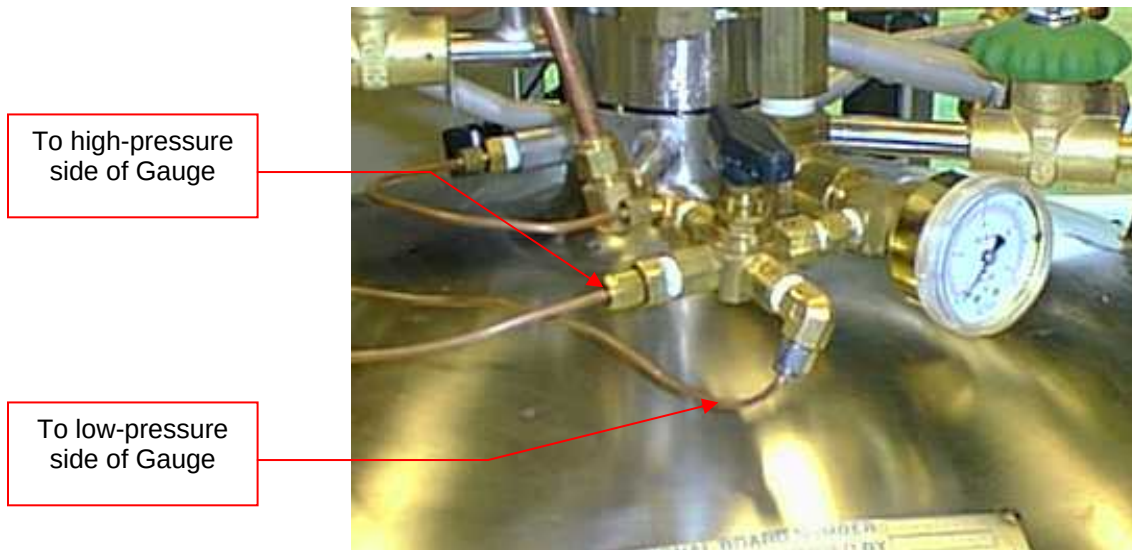

Figure 7
- 1.11.13** The complete valve plumbing is shown in operating position in Figure 7.